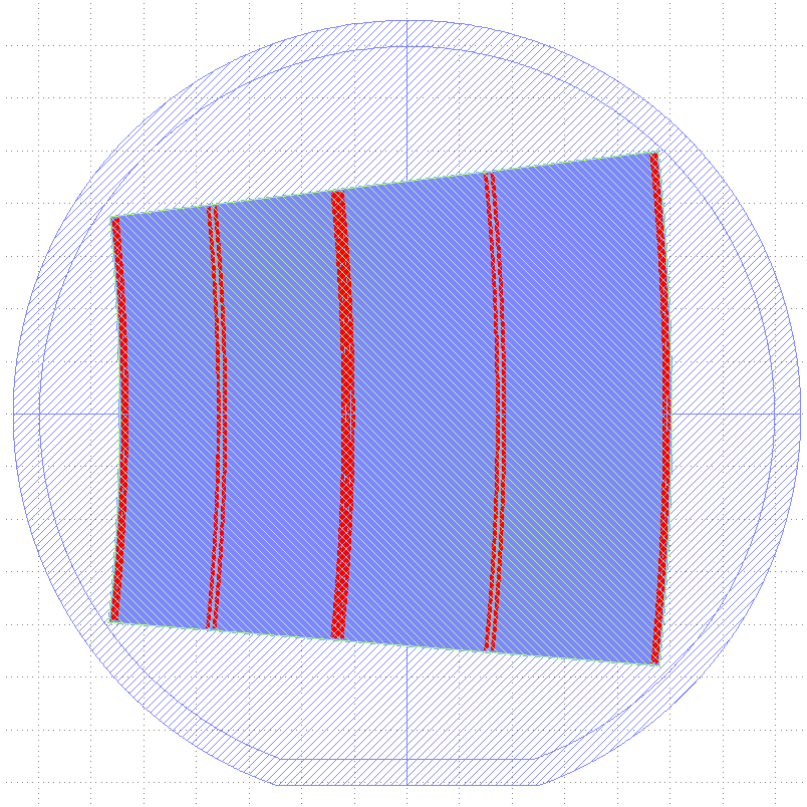

Figure 3: Desired sensor orientation for best accuracy.
- 4.) **Load a Sensor** – Load a sensor onto the chuck of the Semiprobe robot and turn on the vacuum with the Navigator GUI. Best results have been observed if the angle of rotation from the GDS file is minimized. This alignment is convex side to the right and concave left as seen in figure 3.